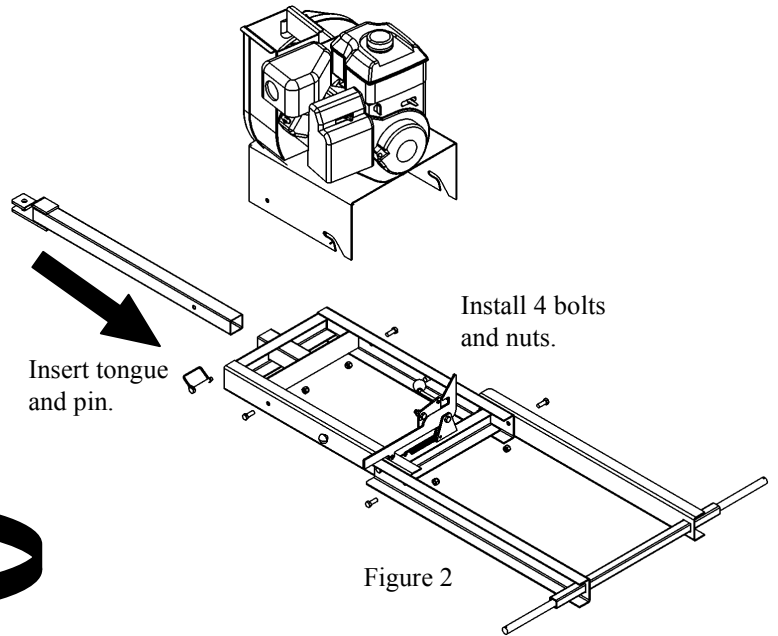

Figure 2
6. Tighten all four of the hitch bolts securely. (Figure 2)